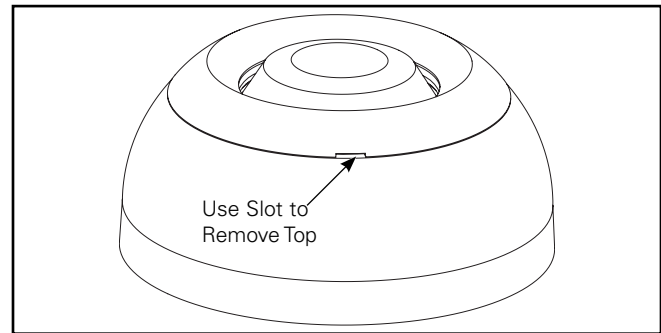

Figure 4.
1. Locate slot on sensor. (Figure 4.)